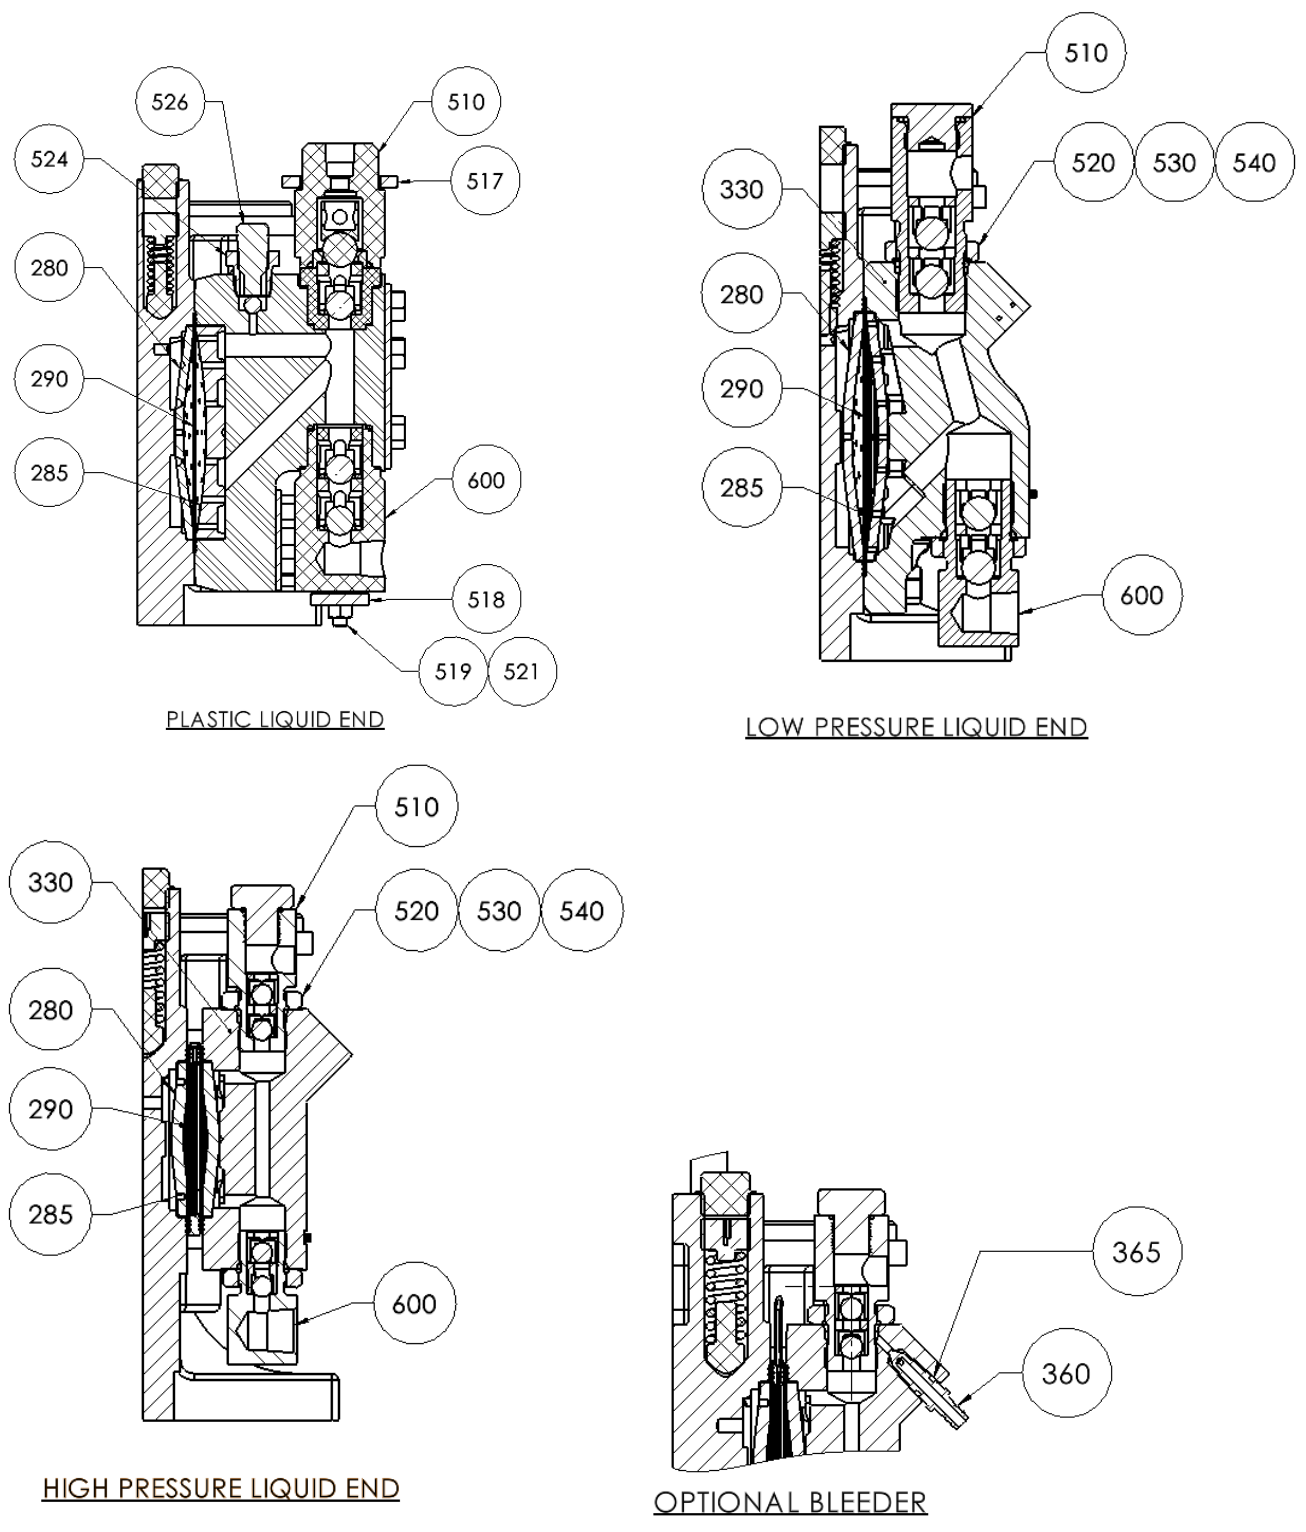

FIGURE 24. MROY B Metallic and Plastic Liquid End (DWG 99920100012)
6.18 mRoy B LIQUID END – L & R FIGURE 24)
6.19 mRoy B LIQUID END – K (FIGURE 24)